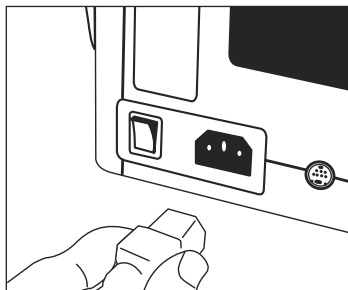

Figure 1
1. Plug power cord into the rear of the machine, then plug cord into a grounded outlet. (See Figure 1)
2. Switch machine power ON (I).